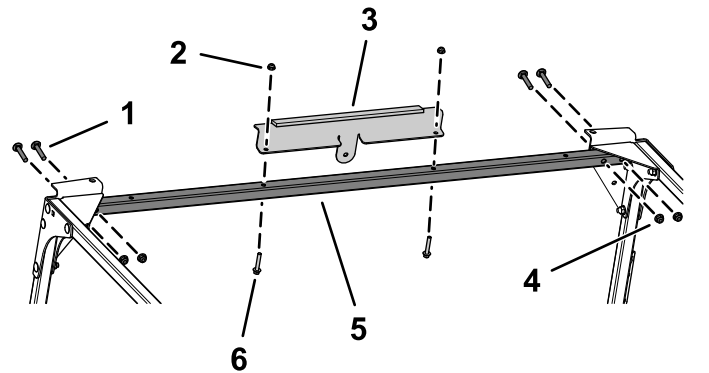

Figure 11
10. Loosely install the front crosslink to the front plates and corner gussets using 4 carriage bolts (5/16 x 1-3/4 inch) and 4 flange nuts (5/16 inch) as shown in Figure 11.
11. Install the front support to the front crosslink using 2 hex-flange bolts (1/4 x 1-1/2 inches) and 2 flange nuts (1/4 inch) as shown in Figure 11.